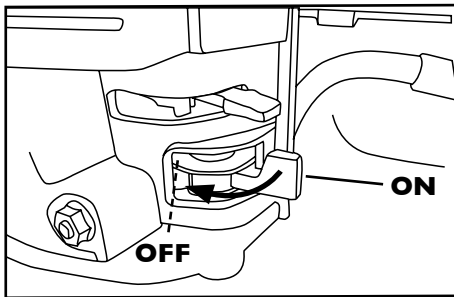

Fig 7. Fuel Shut-OFF Lever
1. Move the fuel shut-off lever (Figure 7) to the **ON** position.